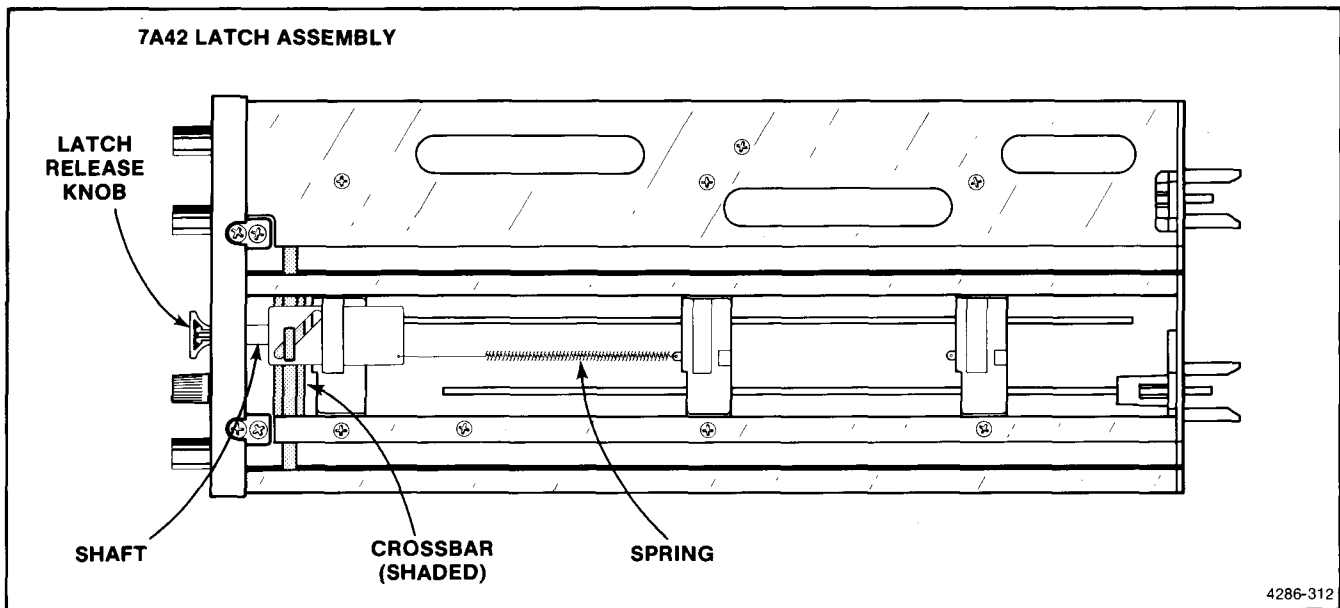

Figure 3-28. Latch assembly.
1. Using needle-nose pliers, squeeze the lock mechanism and pull the knob off the latch shaft. See Figure 3-28.